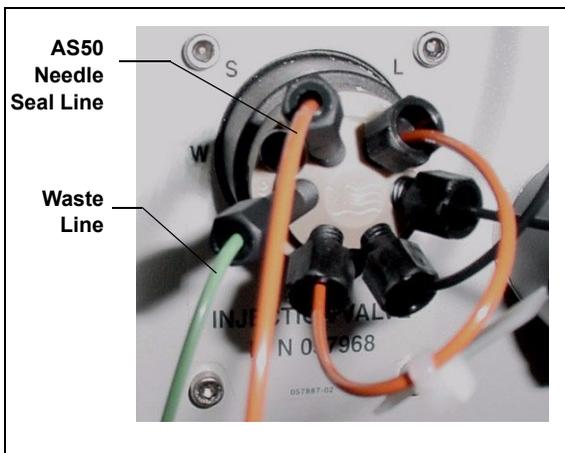
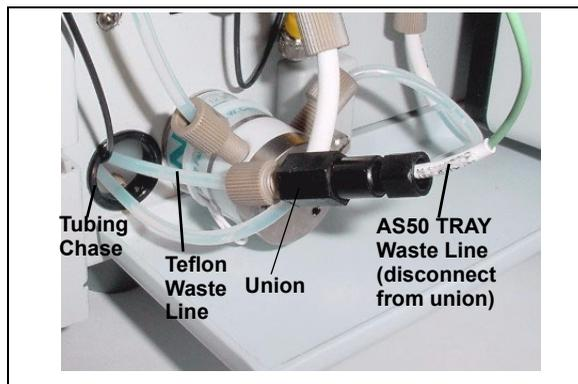

Figure 40. ICS-1500 Injection Valve
Figure 41. Injection Valve Waste Line Union
4. Connect the needle seal line from the AS50 to port **S (5)** on the injection valve (see Figure 40).
The green waste line that is connected to port **W (6)** on the injection valve (see Figure 40) is connected with a union to a Teflon waste line (see Figure 41) and routed through the tubing chase to the ICS-1500 rear panel.